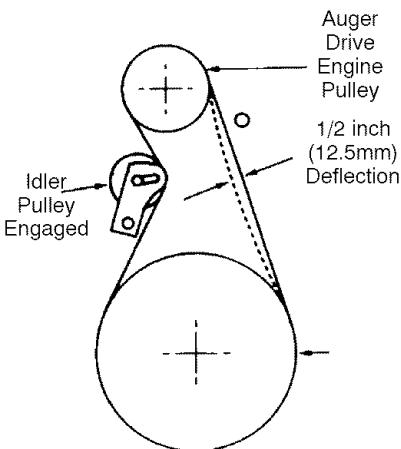

Figure 27
5. Have someone engage auger drive clutch. Check tension on belt (opposite idler pulley). Belt should deflect about  $1/2$  inch (12.5 mm) with moderate pressure (Figure 27). You may have to move idler pulley more than once to obtain the correct tension.